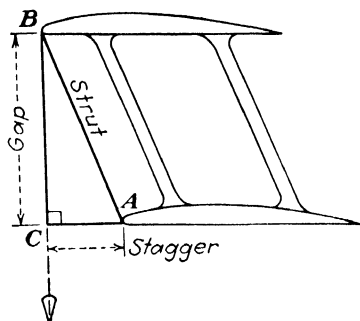

Fig. 72.
30. Measure, to the nearest 64th, the lines in Fig. 72.